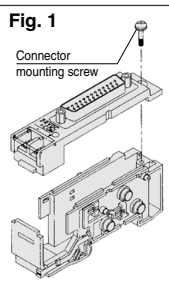

Fig. 1
- 3** Separate the connector block assembly in the same manner as [2], and remove the connector mounting screw shown in Fig. 1.